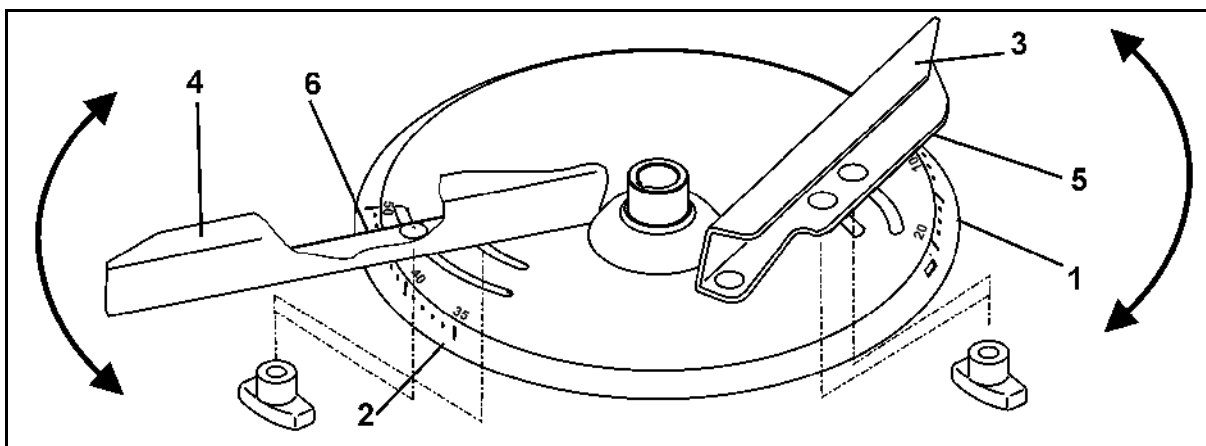

Fig. 69
1. Remove the wing nut (Fig. 69/1).